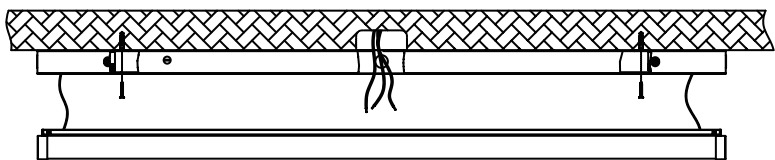

FIGURE 4
4. Lead the wire into the luminaire and install the chassis by using the screws in the accessory kit. (Figure 4)